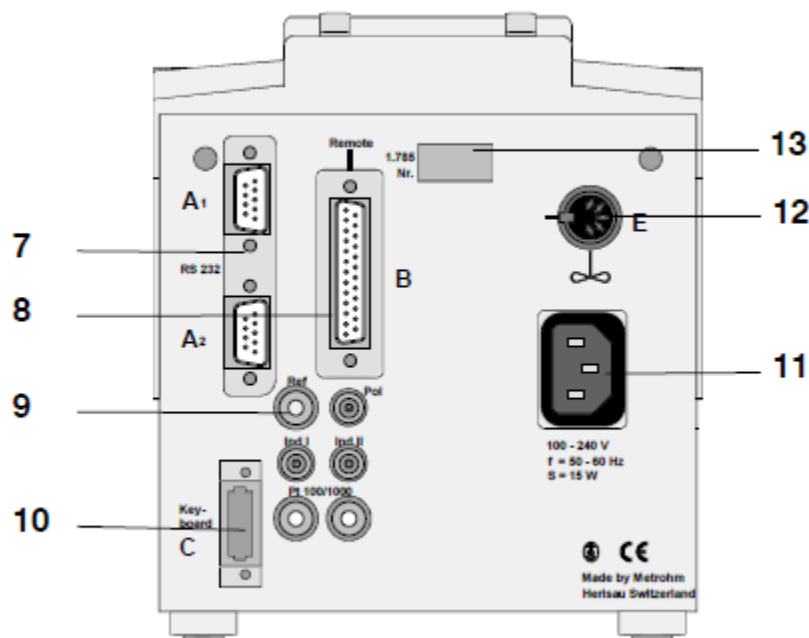

Figure 4. 785DMP Connector Slots.
1.	Remove the 785 DMP unit from the container, locate the following cords, and plug them into the indicated slot ( Figure 4 ): –Connection 11: Power cord –Connection 9: Silver Titrode cord (connected to titrode) –Connection 12: Electronic Stirrer cord (connected to electronic stirrer assembly) –Connection 7 (bottom): Serial Cord (straight-through, Female/Female) (A2 on back of device) –Connection 10: Keyboard cord (connected to the keyboard device)